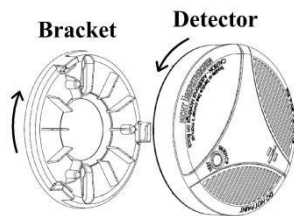

Figure 7: Removing the bracket
2. Remove the mounting bracket from your unit by rotating it counterclockwise, shown in **Figure 7**.